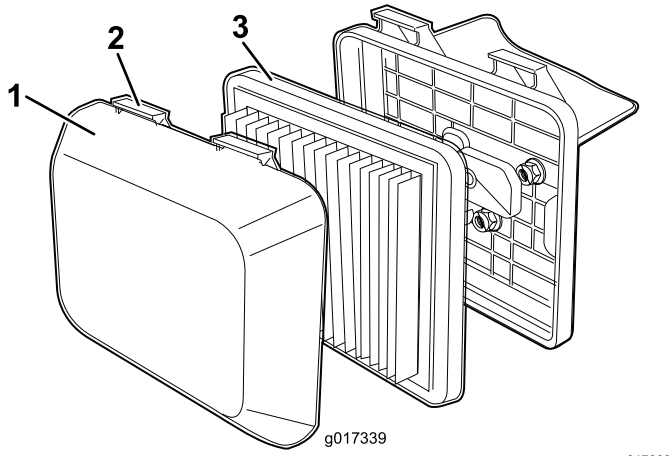

Figure 20
1. Press down on the latch tabs on top of the air-cleaner cover (Figure 20).
3. Remove the filter (Figure 20).